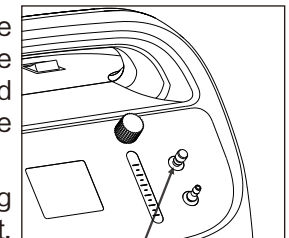

Figure 7
- Upward pull out the nebulizing cover on the nebulizing outlet. (Figure 7)